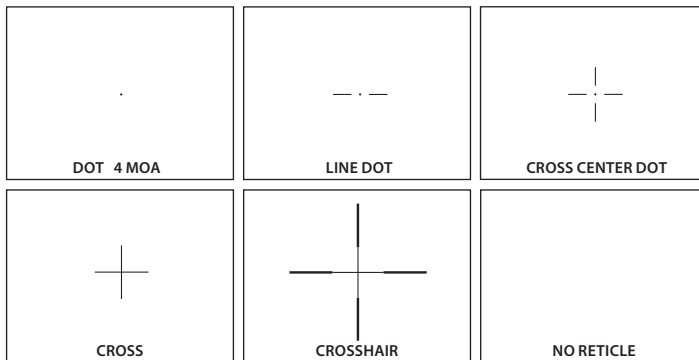

FIGURE 3-26. RETICLE PATTERNS
Push and hold button (4) to select from a choice of reticle patterns: "Dot 4 MOA," "Line Dot," "Cross Center Dot," "Cross," "Crosshair" (Figure 3-26).